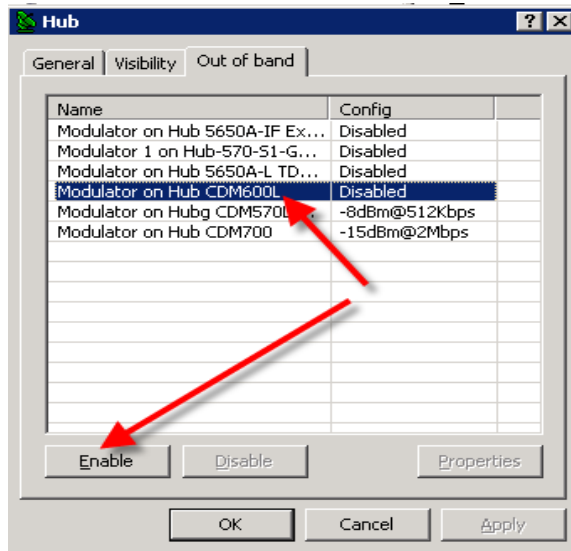

Figure 6-10 Selecting the Out of Band Modem
4. Highlight the Modulator for the new SNMP modem and click Enable as shown in figure 6-10 below: